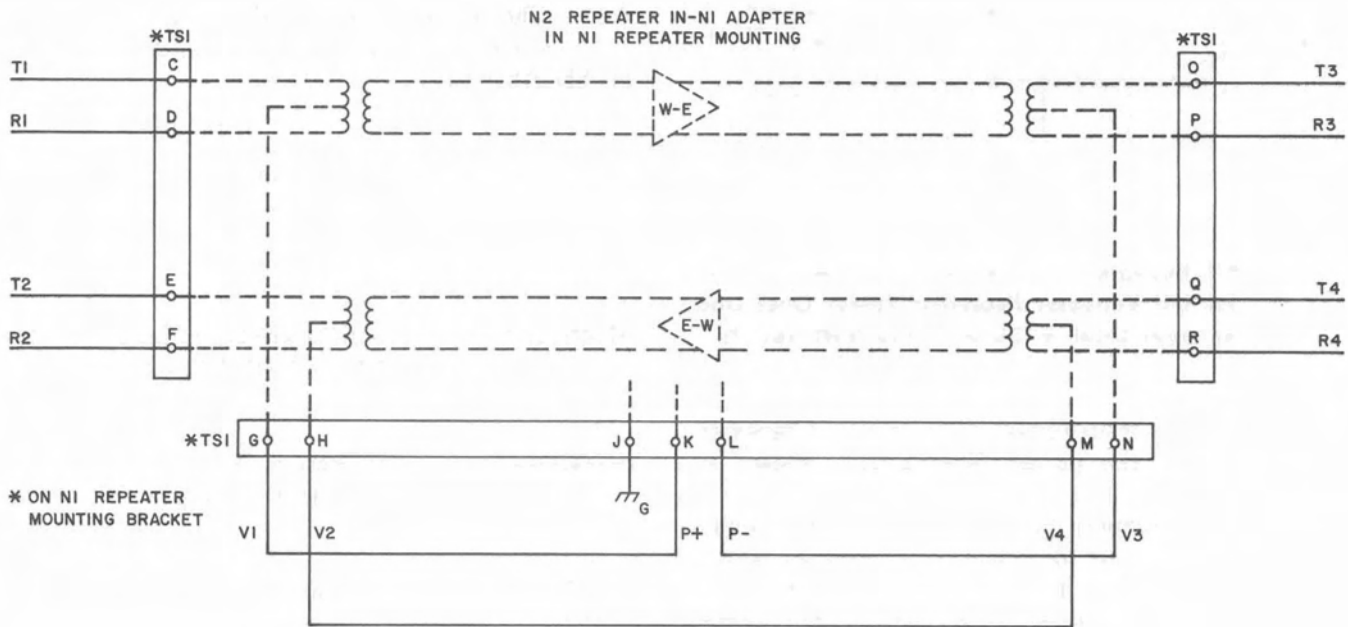

Fig. 11—Power Connections at N1 Repeater Mounting, - for Power Received + Continued to Other Repeaters
**3.10** Power is transmitted or received at a repeater through the power filter circuit, shown in Fig. 10, provided in the N2 repeater-to-N1 or -N1A adapter. The adapter may be arranged to terminate power at a remote location, or to receive power from one direction and transmit power to additional repeaters and 240-type amplifiers in the other direction. For the -N1 adapter these connections are made on terminal strip TS1 on the N1 repeater mounting bracket as shown in Fig. 11.